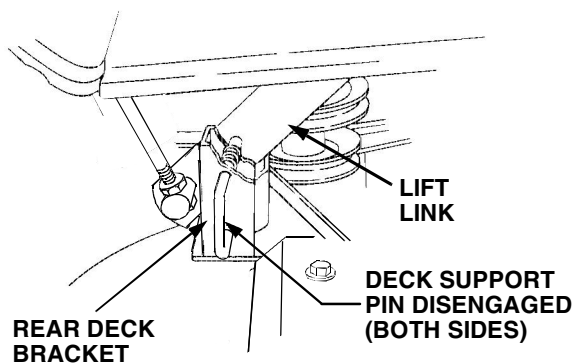

Figure 6-15
7. Pull the deck support pins outward, turn downward and release so both spring-loaded pins are held in the disengaged position against the outer surface of the deck brackets (Refer to Figure 6-15).